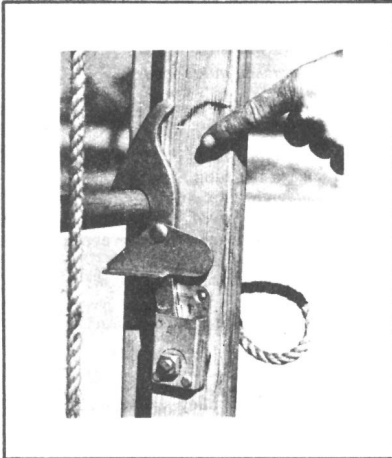

FIGURE 17.
10.02 One type of lock with which standard extension ladders are equipped is shown in Figure 17.